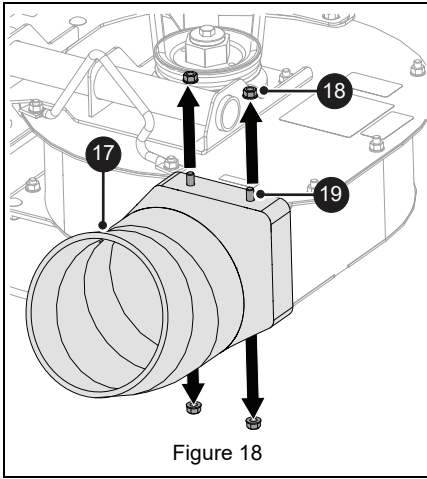

Figure 18
1. Install hose adapter (item 17) and secure with four 5/16" x 1" round head square neck bolts (item 19) and four top-locking flange nuts (item 18). Bolts are installed from the inside with the nuts on the outside. See Figure 18.